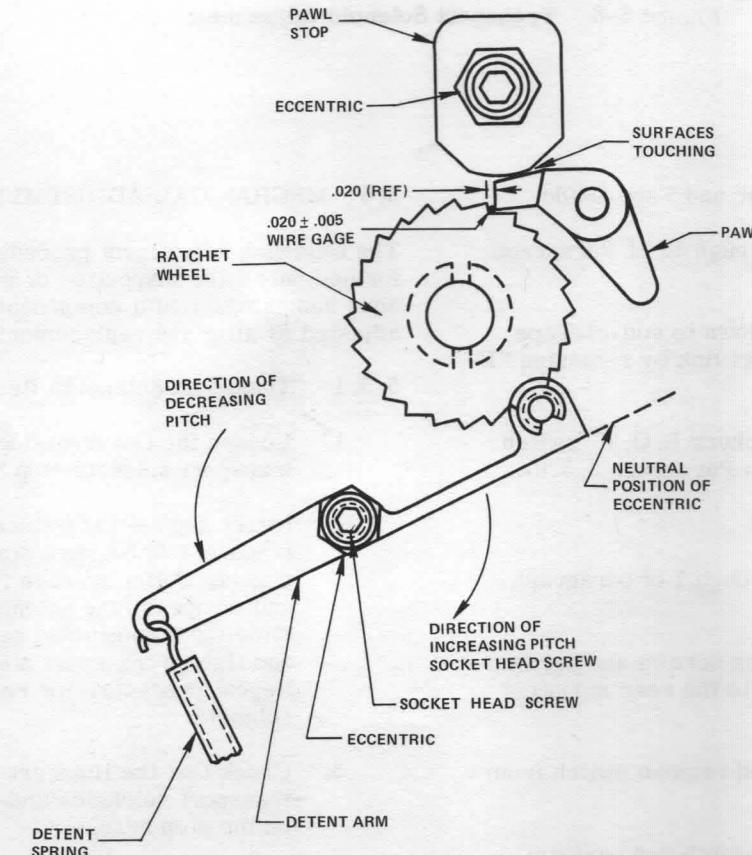

Figure 5-7 Detent Adjustment
- With the gap setting fixtures properly positioned on each solenoid, place the detent mechanism to the neutral position by loosening the socket head screw and adjusting the eccentric as illustrated in Figure 5-7.
- Insert the gap setting fixture between the stop bracket and stop damper on each solenoid and insert the .020 tolerance pin as illustrated in Figure 5-7.
5. Loosen the socket head cap screw and rotate the hex head on the eccentric cam (Figure 5-7). To increase the pitch, rotate the eccentric clockwise. To decrease the pitch, rotate the eccentric counterclockwise. (Ensure socket head cap screw is tightened prior to running the punch).
9. Loosen the socket head cap screw (Figure 5-7) and rotate the eccentric slightly. Adjustment can be made visually by viewing the tape in the area between the die block and tape holdown bracket. When the tape is running smoothly in this area, the holes being punched will appear to be strobing and the adjustment should be correct. Tighten the socket head cap screw.